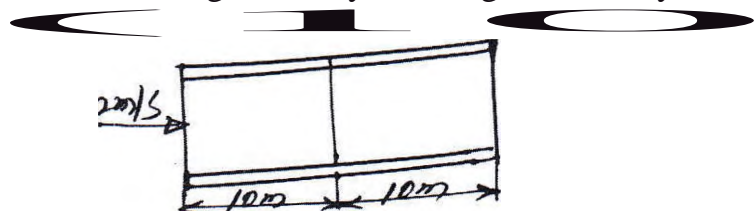

Fig.Q8(b)
- b. For the smooth pipe with uniform cross-section of 1 m^2 as shown in Fig.Q8(b). Determine the flow velocities at the center and right end, by knowing the velocity at the left is $V_1 = 2 \text{ m/sec}$. (04 Marks)